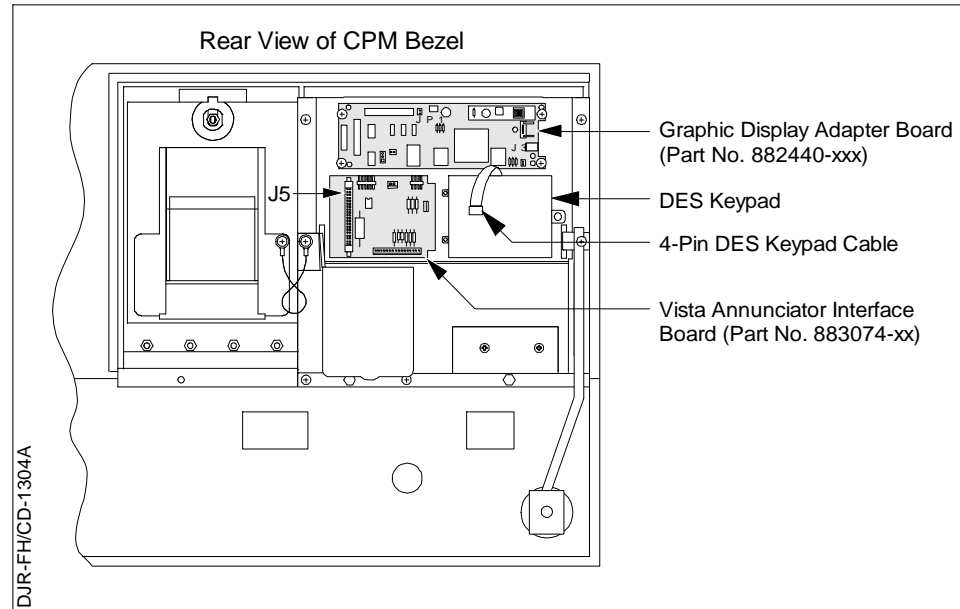
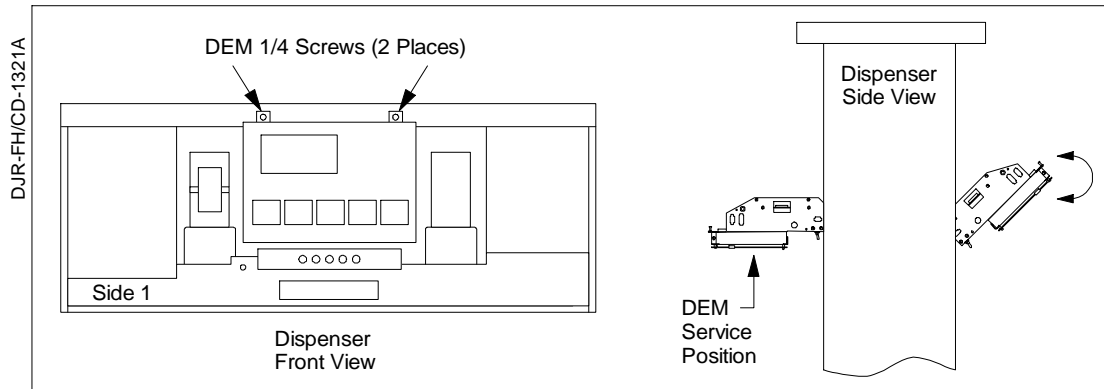

Figure 2-3 Disconnecting Cables on Back of Graphic Display Bezel
Figure 2-4 Lowering the DEM into the Service Position
- a. If the bezel is equipped with a graphic display, disconnect the graphic display heater cable (PN 882827-001) plugged in the 2-conductor black connector that routes on the right side of the graphic display. See Figure 2-3.
- b. Disconnect the cable assembly (PN 881524-xx) installed in J5 on the annunciator interface board. Refer to Figure 2-3 and Figure 2-4 for the following steps.
1. Use a slotted screwdriver to loosen two ¼ turn screws located at the top of the DEM. Refer to Figure 2-4.